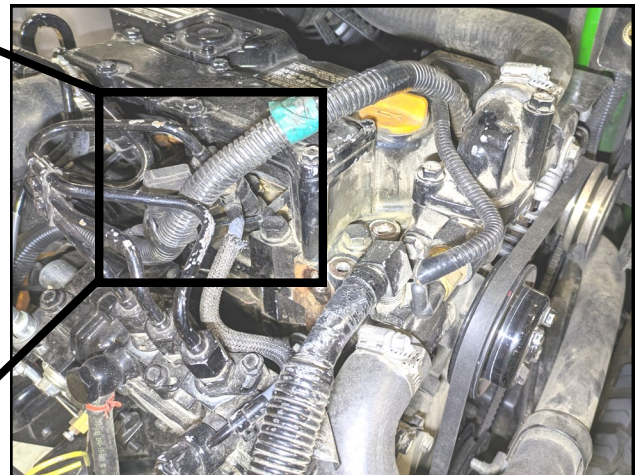

Fig. 1.33a (Route Wires)
**1.33** Re-route the wire harness between the fuel hardlines as shown in Figures 1.33a and 1.33b and reconnect the white connectors.